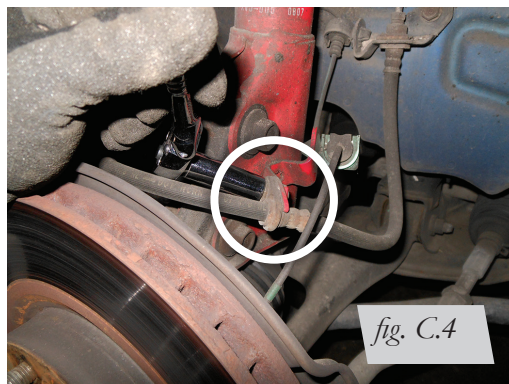

fig. C.4
1. Unbolt the brake line tab from the bracket (Figs. C.4 and C.5).